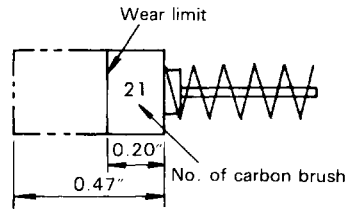

Fig. 4
3. Inspecting the carbon brushen (Fig. 4)